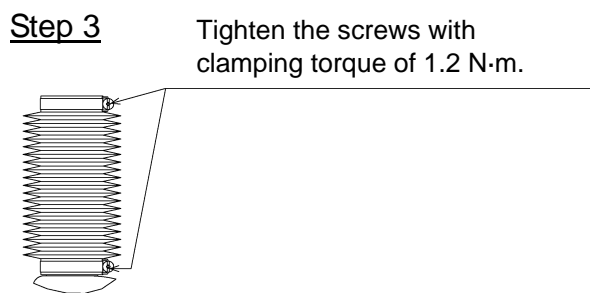

Fig. 3.4 Procedures for mounting clean bellows
- [3] Mount the clean bellows as shown in Fig. 3.4 below. Take careful precautions not to damage the clean bellows. Abnormalities such as twist and wrinkle will result in breakage of the bellows. Make sure that no such abnormalities are found in the clean bellows and that the clean bellows is in a good condition. Take utmost care that the screw will not interfere with the bellows. The clamping torque of the screw is 1.2 N·m.